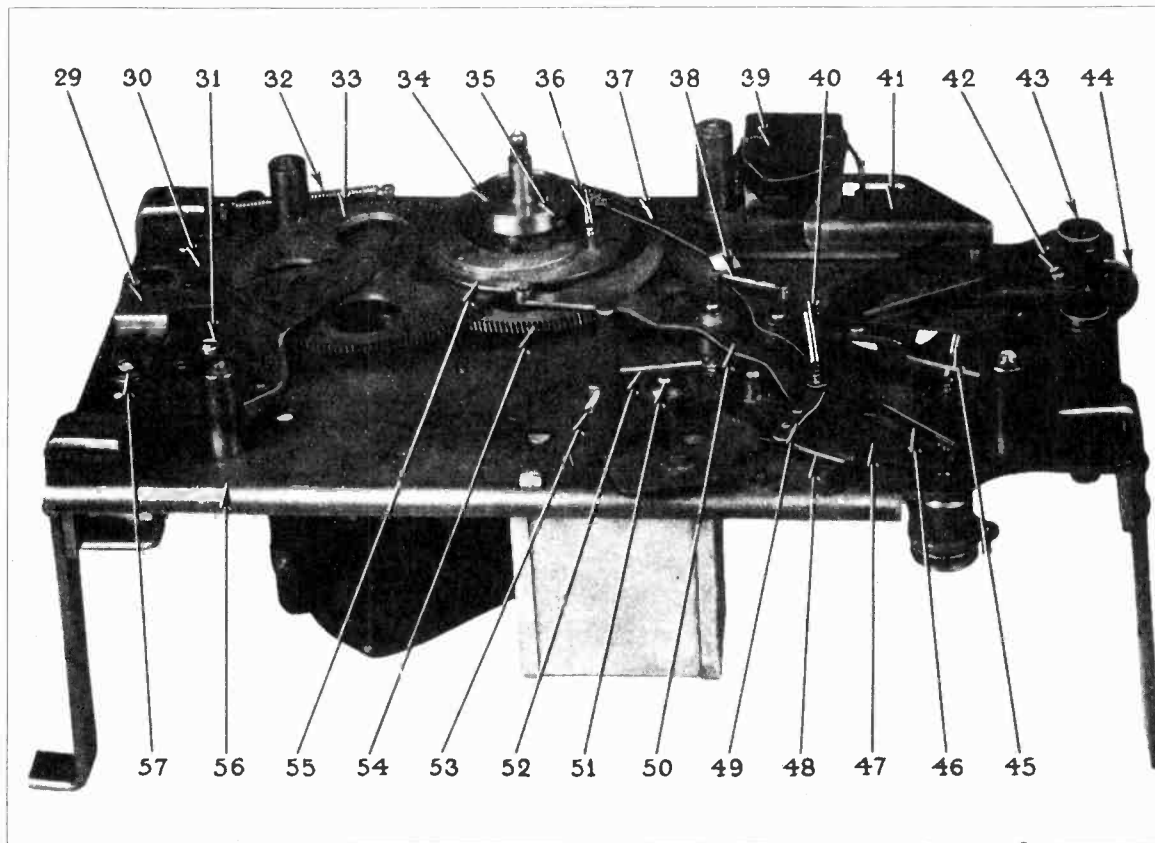
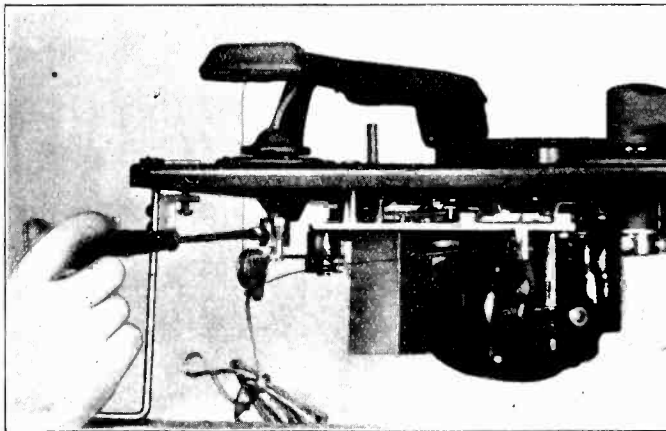
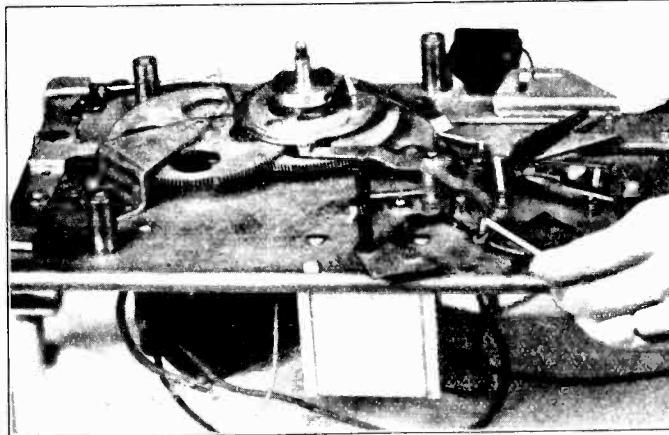

Figure 4—Top View of Automatic Mechanism with Motor Board Removed
Figure 5—Adjusting Tone Arm Setting
Figure 14—Adjusting Latch Plate
- (a) *Improper Tone Arm Setting*—Loosen the set screws as shown in Figure 5. With the mechanism out of its cycle, press the locating lever 47, Figure 4, at a point near the arrow head until the lever strikes the stop screw 53, Figure 4. Holding the locating lever in this position, move the front portion of the trip lever 15, Figure 2, until the pin, against which the flat spring operates, is making contact with the locating lever. Holding the two levers in this position, move the pickup arm until the needle is  $\frac{1}{8}$ " away from the first groove of a standard 10-inch record. Now retighten the two set screws shown in Figure 5.
- (b) *Improper Adjustment of Locating Screw*—This adjustment screw shown at 53, Figure 4, can be used to make a substitute adjustment for that described in (a) above, when the mechanism is out of the cabinet, and should be so regulated that the needle will lower exactly  $\frac{1}{8}$ " away from the first groove on a standard 10-inch record. Loosen the lock nut on the adjusting screw by means of a No. 4 Spintite wrench on which the shoulder has been ground sufficiently thin for clearance. Make the necessary adjustment as shown in Figure 6. *Caution—Do not attempt to make this adjustment without first loosening the lock nut since the screw will likely snap.* Tighten the lock nut when the proper adjustment has been made.
- (7) **Failure to Trip on Eccentric Groove**—Failure of the mechanism to change records when the eccentric groove is reached may be caused by:
- (a) *Improper Setting of Latch Plate*—Adjust the latch plate 49, Figure 4, by means of a small offset screw driver such as Stock No. 2930, as shown in Figure 14 until it makes proper contact with the latch trip when the eccentric groove is reached.
(10) **Failure to Stop**—Failure of the mechanism to stop after the "off" button has been pressed, and the mechanism has completed its cycle is caused by improper setting of the secondary stop switch 39, Figure 4. The switch body should be so mounted that the contacts will open  $\frac{1}{8}$ " when the cycle is completed, but will close as soon as the mechanism is tripped.
- (b) Improper setting of latch plate 49, Figure 4.
- (a) *Weak Spring on Pawl Carrier*—Remove the spring 36, Figure 4, and increase its tension by removing two or three coils.
- (13) **Retiming the Mechanism**—Should it be necessary to retime the mechanism after replacing certain of the parts, or because of continued tripping, proceed in the following manner:
- (a) Allow the mechanism to operate until the slide 30, Figure 4, is in its extreme forward position. When this setting is reached the straight side of the cam 54, Figure 4, will be parallel with the side of the slide.
- (b) Loosen the set screw in the clutch wheel 35, Figure 4, and lift the wheel from the turntable spindle.
- (c) Lift the pawl carrier 55, Figure 4, until it disengages from the gears.